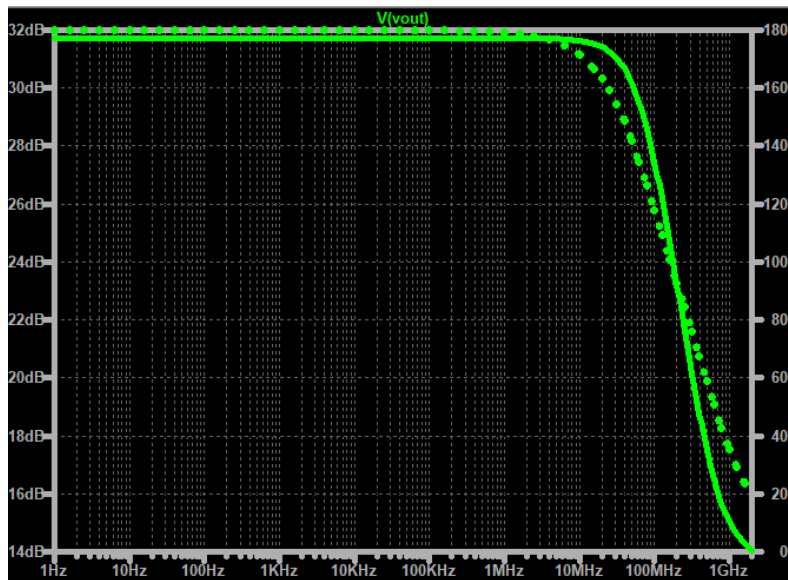

Figure 2.14 Bode plot for Figure 2.11
4. Run the simulation then plot the vout node. You should get Figure 2.14.